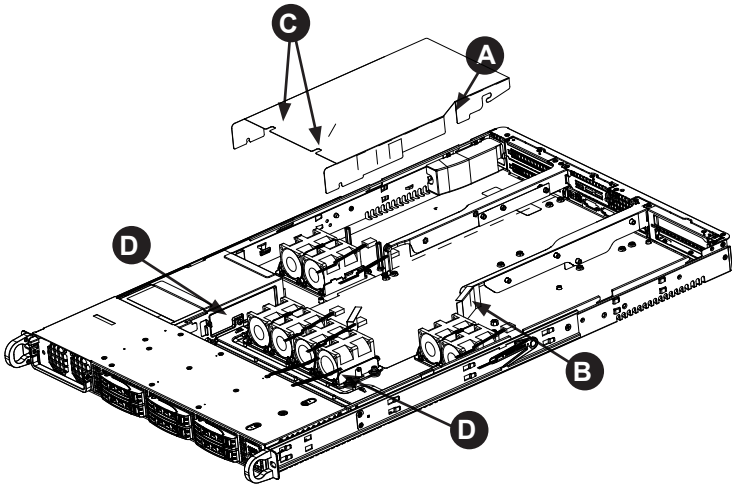

Figure 6-6. Installing the Air Shroud
1. Position the air shroud in the chassis as illustrated in Figure 6-6.
2. Align the notch (A) on the air shroud with the pin (B) on the add-on card bracket.
3. Slide the pin (B) into the back of the notch (A)
4. Lower the front of the air shroud over the fan tray, sliding the front notches (C) over the pins on the fan tray (D).